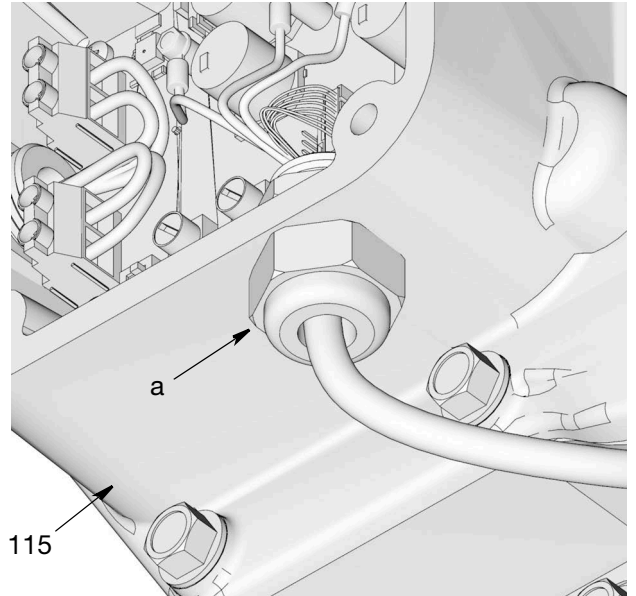

FIG. 57
- Use a wrench to loosen the strain relief (a) and remove the wiring harness from the housing (FIG. 57).